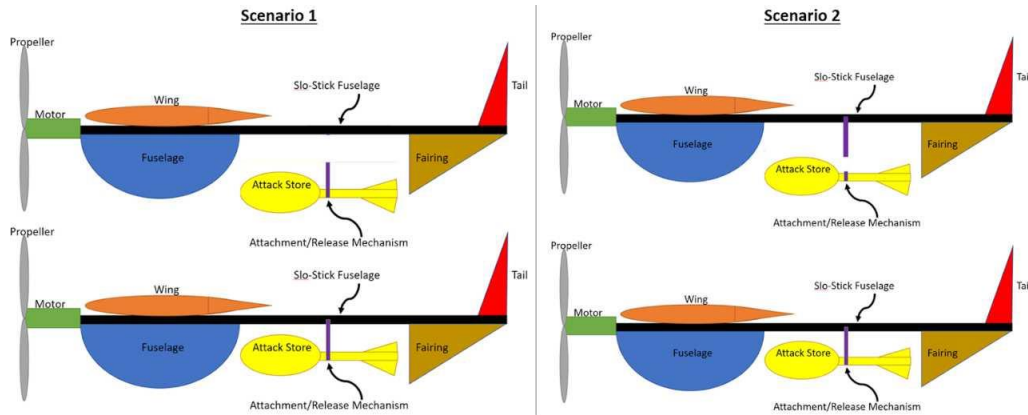

Figure 2
29. When attaching stores for the ground mission (see Figure 2), can we attach both the mounting hardware and the stores onto the aircraft at the same time since we can remove the hardware for M1 and M2 (Scenario 1) or does the mounting hardware need to already be on the aircraft and only the store can be attached (Scenario 2)?